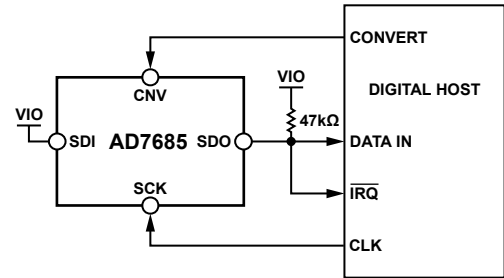
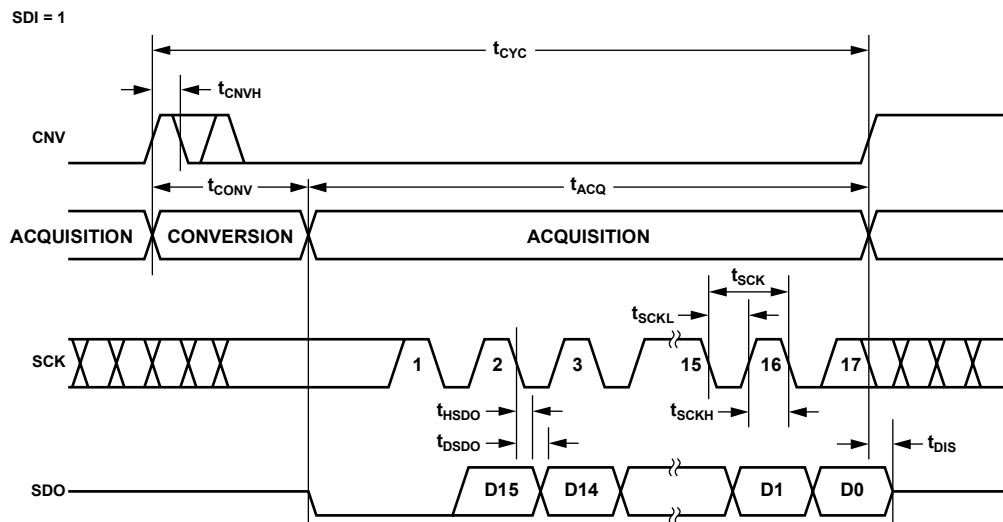
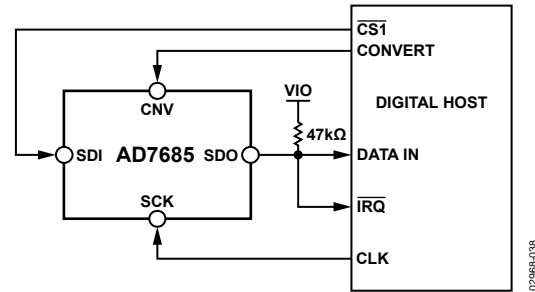
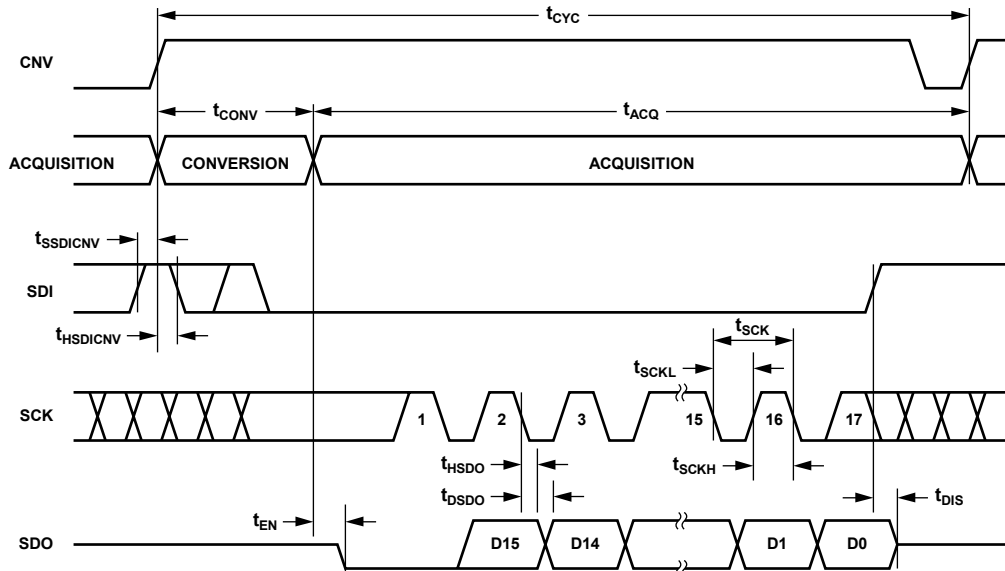

Figure 36.  $\overline{\text{CS}}$  Mode 3-Wire with BUSY Indicator Connection Diagram (SDI High)
Figure 37.  $\overline{\text{CS}}$  Mode 3-Wire with BUSY Indicator Serial Interface Timing (SDI High)
Figure 40. CS Mode 4-Wire with BUSY Indicator Connection Diagram
Figure 41. CS Mode 4-Wire with BUSY Indicator Serial Interface Timing
- In the  $\overline{\text{CS}}$  mode, if  $\overline{\text{CNV}}$  or SDI is low when the ADC conversion ends (see Figure 37 and Figure 41).
The connection diagram is shown in Figure 36, and the corresponding timing is given in Figure 37.
The connection diagram is shown in Figure 40, and the corresponding timing is given in Figure 41.